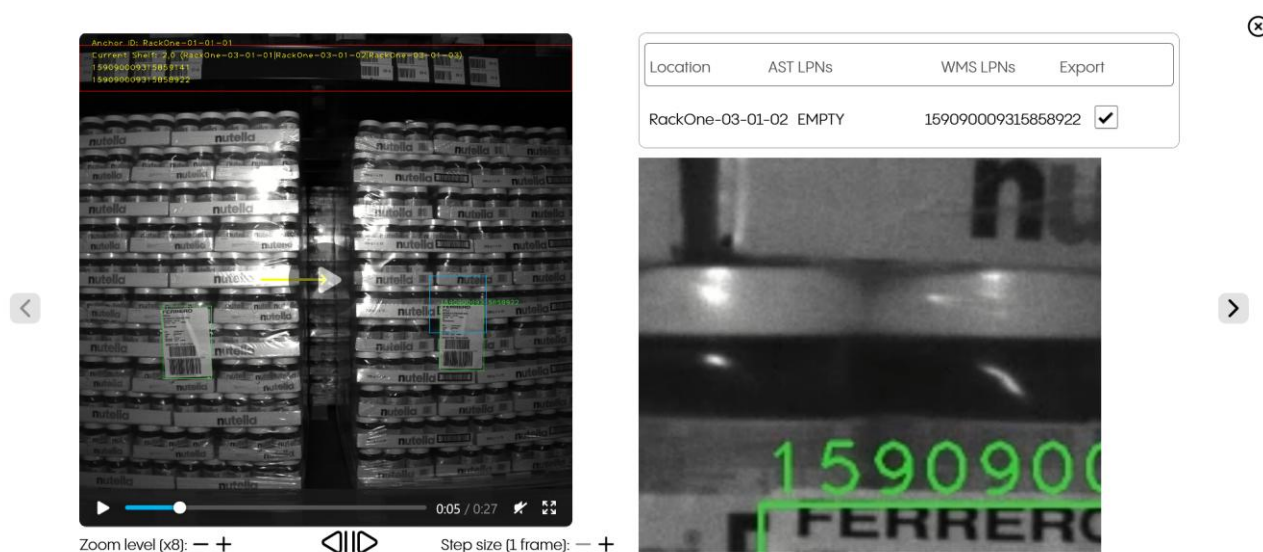

FIGURE 4-3 - VIDEO PLAYER
- By clicking the "Open Recording" button, the specific LPN recording in question is displayed through opening a video player dialogue. (see Figure 4-3 - Video player)